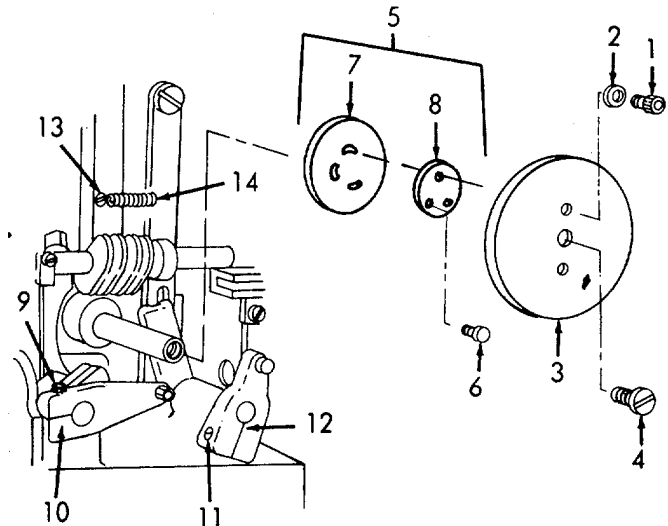

Figure 6-151. Cam and Cam Arms, Removal.
a. *Removal (Refer to Figures 6-151 through 6-153).*
- (1) Refer to Figure 6-151. Remove two screws (1), two washers (2), and large cam (3).
- (2) Remove left-hand threaded screw (4).
- (3) Remove three screws (6), small cam (7), and plate (8).
- (4) Remove small cam assembly (5).
- (5) Loosen setscrew (9) and remove front cam arm (10).
- (6) Loosen setscrew (11) and remove rear cam arm (12).
- (7) Remove two screws (13) and spring (14).